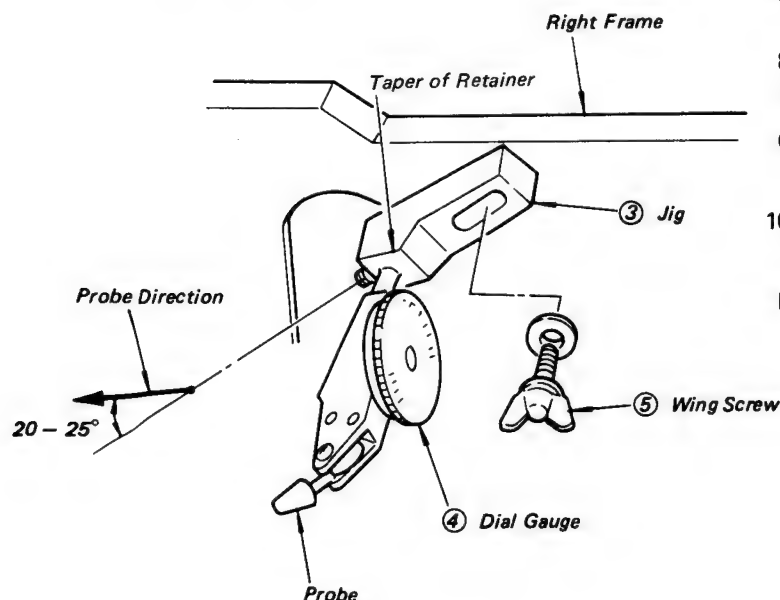

Fig. 5-105 Adjusting the Eccentricity Gauge
2. Remove the two screws (2) holding the cassette opener, and move the cassette opener to the cylinder assembly side.
3. Reassemble the retainer of eccentricity gauge (3) as the taper of retainer should be come inside and the scale (4) is in the vertical position. (see Fig. 5-105)
4. Fix the eccentricity gauge (3) with the wing screw (5) on the right frame of chassis.
5. Position the probe of eccentricity gauge (3) should be come the top of video head disk assembly.
**NOTE:** The gauge of the probe and the retainer of eccentricity gauge should be kept about 25 degrees. (see Fig. 5-105)